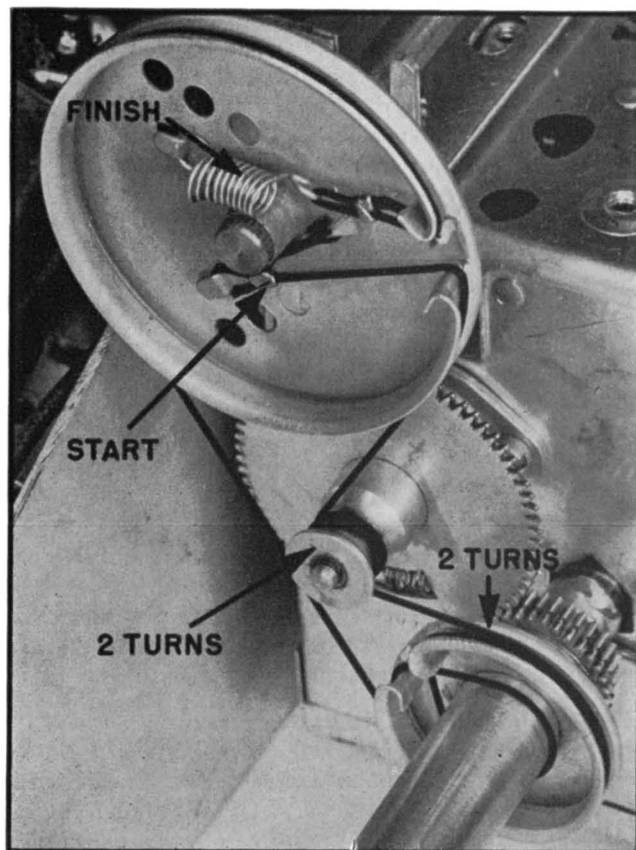

Figure 19.
3. Hook end of the dial cord on the pulley drum, marked START in figure 19, and string dial cord as shown.